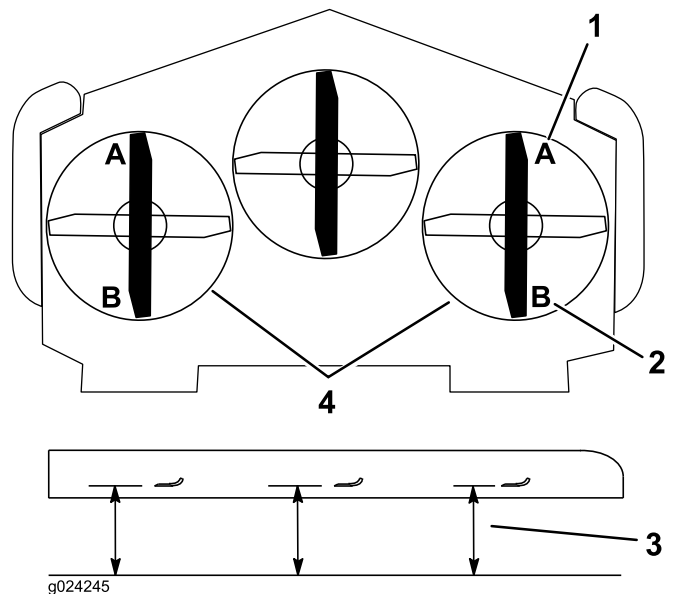

Figure 85
8. On both sides of the deck, measure from the level surface to the front tip of the blade (Position A) as shown in Figure 85.
13. On both sides of the deck, measure from the level surface to the back tip of the blade (position B) as shown in Figure 85.